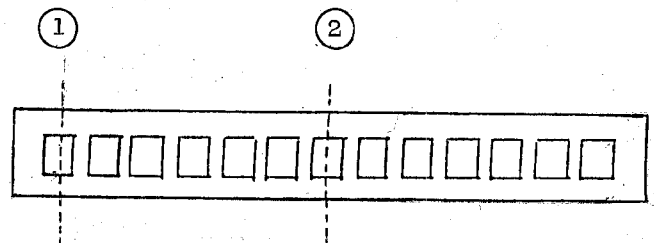

Fig. 3
Let us show you some examples by Fig. 3.
When a 12-Position header is required, cut the header at the line 1 in Fig. 3, and when two 6-position headers are required, cut at the line ② in Fig. ③.